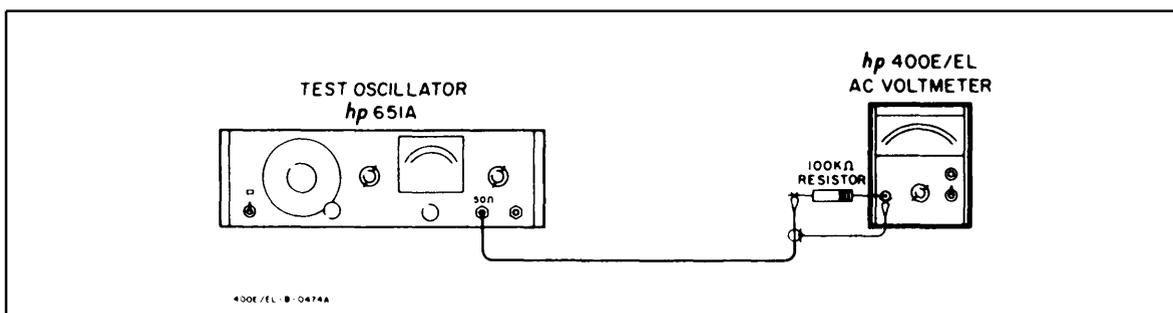

Figure 5-2. Input Impedance Check
- c. Connect a 100 K Ω resistor between the test oscillator output and the 400E/EL input as shown in Figure 5-2.
- a. Connect a test oscillator, a 100 K  $\Omega$  resistor, and the 400E/EL as shown in Figure 5-2. Insert the resistor lead directly into the BNC connector on the 400E/EL, and connect the ground lead to the outer shield of the 400E/EL input connector. Do not use an adapter, as any adapter will add input capacity.